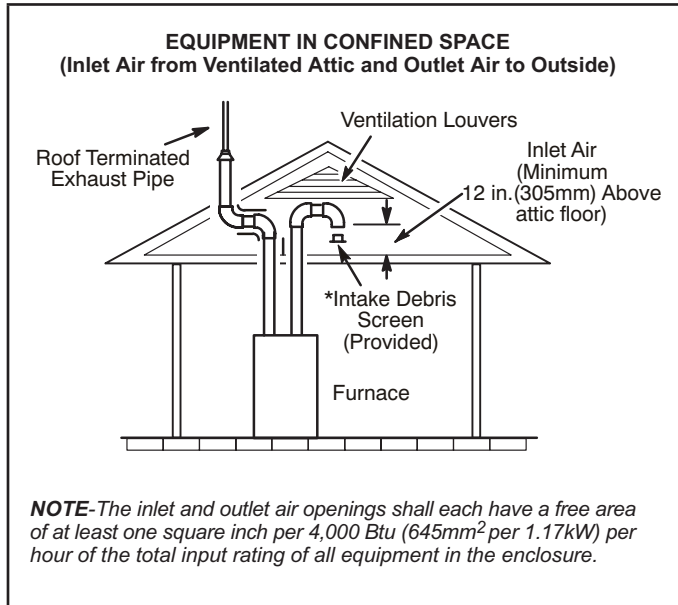
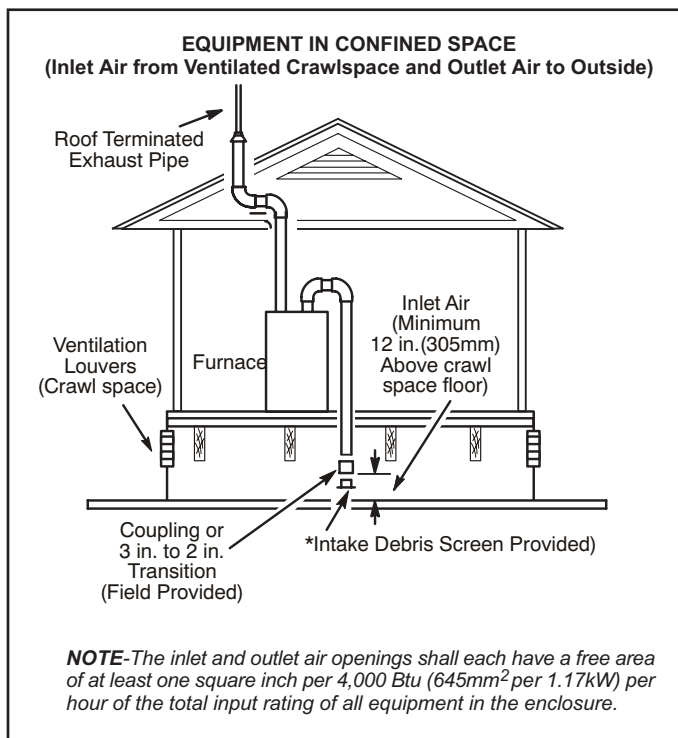

Figure 29
Figure 30
- 2 - If intake air is drawn from a ventilated attic (Figure 29) or ventilated crawlspace (Figure 30) the exhaust vent length must not exceed those listed in table 6. If 3" diameter pipe is used, reduce to 2" diameter pipe at the termination point to accommodate the debris screen.